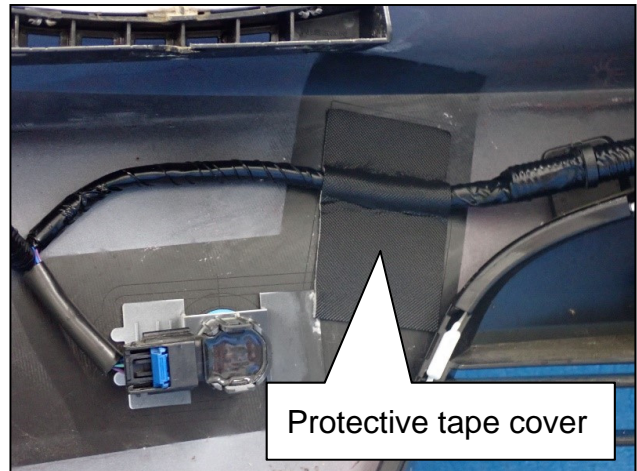

Figure 41
- Figure 41 shows the one (1) protective tape cover fully installed.